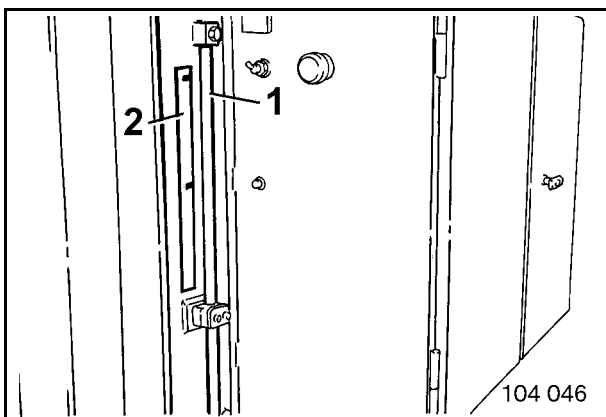

Fig. 3-73:
Sign (2, Fig. 3-73:) is attached beside the level indicator tube (1).
- Fill in hydraulic oil until the oil level lies between the $\frac{1}{2}$ and the $\frac{3}{4}$ marks of the inspection glass (1, Fig. 3-73:) (oil grade see "Refilling quantities - Oil").